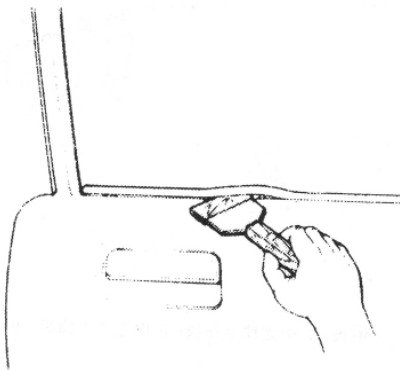

Fig. 18-37
- (3) Down the glass, put away on the outer weather strip sealing by using putty-knife which is covered with adhesive-tape (or screwdriver) , and then remove the screw of glass fixed.see Fig.18-37.